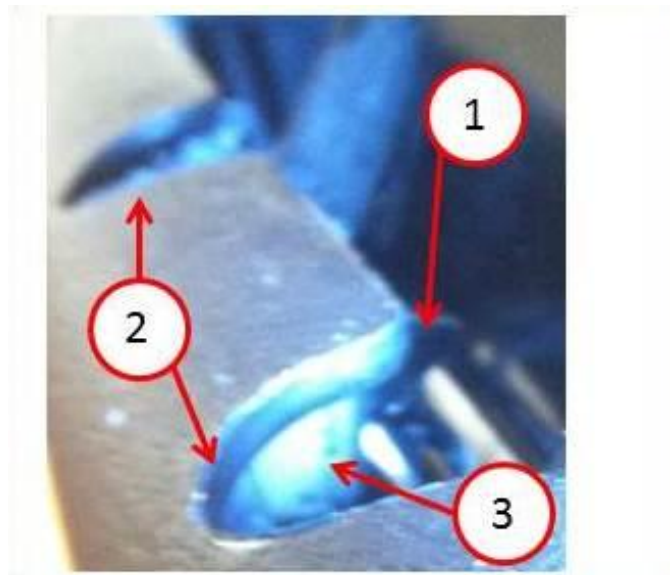

Fig. 9 Bumper Installed
13. Visually inspect the area of repair that the bumper is installed as shown in (Fig. 9).